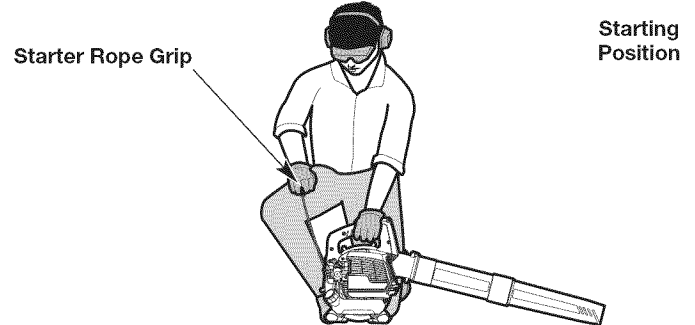

Fig. 5
WARNING: Avoid accidentally starting the unit. To avoid serious injury, the operator and the unit must be in a stable position when pulling the starter rope (Fig. 5).
6. **DO NOT** squeeze the throttle control. Crouch in the starting position (Fig. 5).